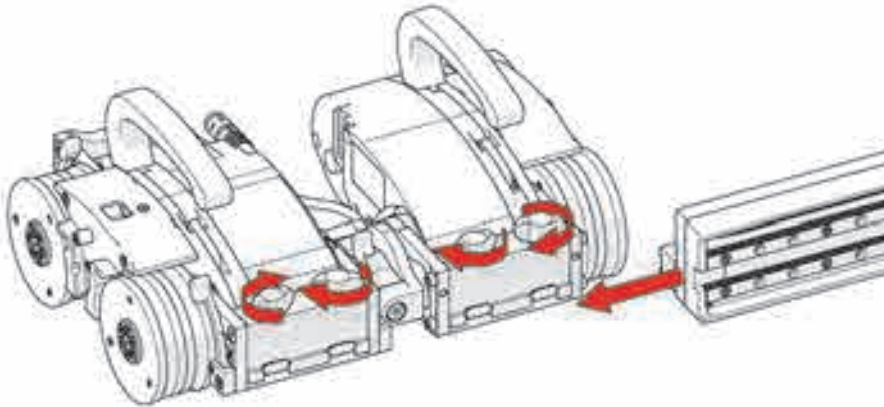

Figure 4-36 Slide onto one swivel mount
1. Loosen all four black wing knobs on both modules, and then slide the raster arm's mounting rail onto the dovetail jaws of one of the modules (see Figure 4-36 on page 122).